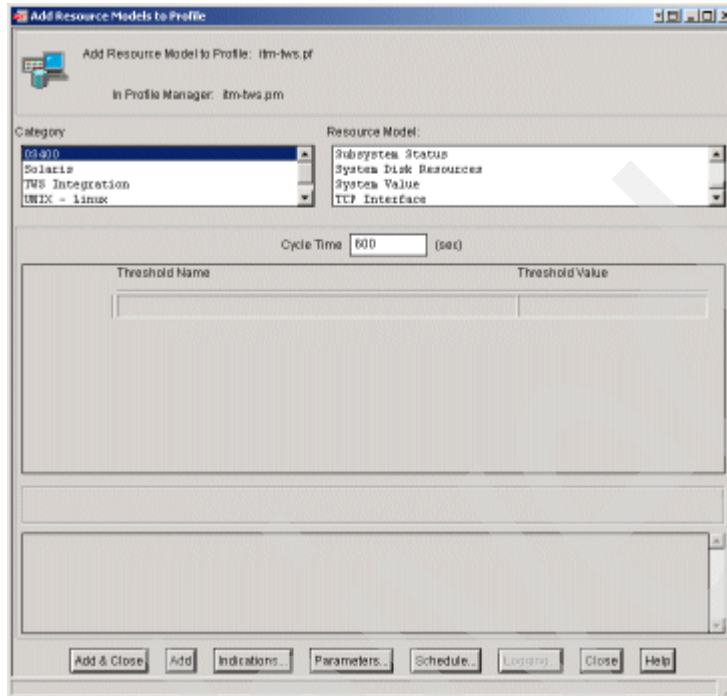

Figure 9-122 Add Resource Models to Profile window
2. Select **Add**. The Add Resource Models to Profile window opens as shown in Figure 9-122 on page 523.